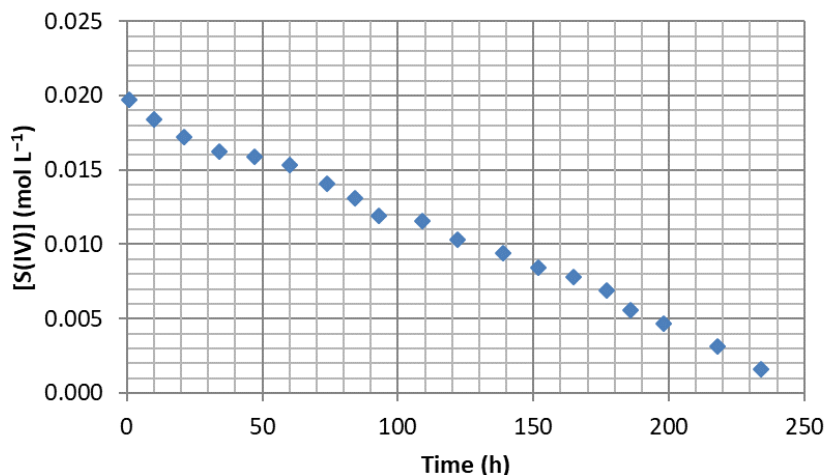

Figure 1: $[\text{S(IV)}]$ as a function of time for the fructose - glycine - sodium metabisulphite S(IV) reaction
The first experiment (A) was carried out by adding $n_{\text{Fru,A,0}} = 1 \text{ mol}$ of fructose, $n_{\text{Gly,A,0}} = 0.5 \text{ mol}$ of glycine and $n_{\text{S(IV),A,0}} = 0.02 \text{ mol}$ of **S(IV)** at the same time to a 1 L sodium acetate/acetic acid buffer. Every 15 hours (roughly), an aliquot of 1 mL was extracted from the reactive medium, put in a cell of $l = 1 \text{ cm}$ and a drop of Ellman's reagent was added. The absorbance was measured after stirring. Results obtained from this experiment are shown in figure 1.
4. **Choose** a wavelength to measure the absorbance of the aliquots of experiment (A).